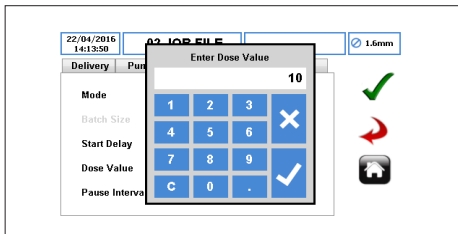

Figure 34 Memory Dose Displayed
- ▶ Press the START button, the pump will start to dispense. When the required quantity of product has been dispensed, press the STOP button and the Memory Dose Value will be displayed as per *Figure 34*: